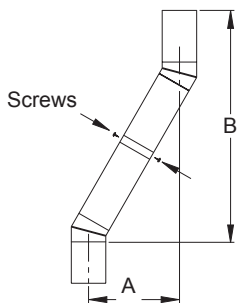

Figure 10 - Elbow Offset
if properly locked. It is not necessary to add screws to keep the chimney together (exception, see Figure 10).
- To achieve desired offset, you may install combinations of 12", 18", 24", 36" and 48" length of double wall pipe (see offset chart and Figure 10).
- All pipe connections between the offset and return must be secured with two screws on the outer pipe only (see Figure 10). Do not penetrate the inner stainless.